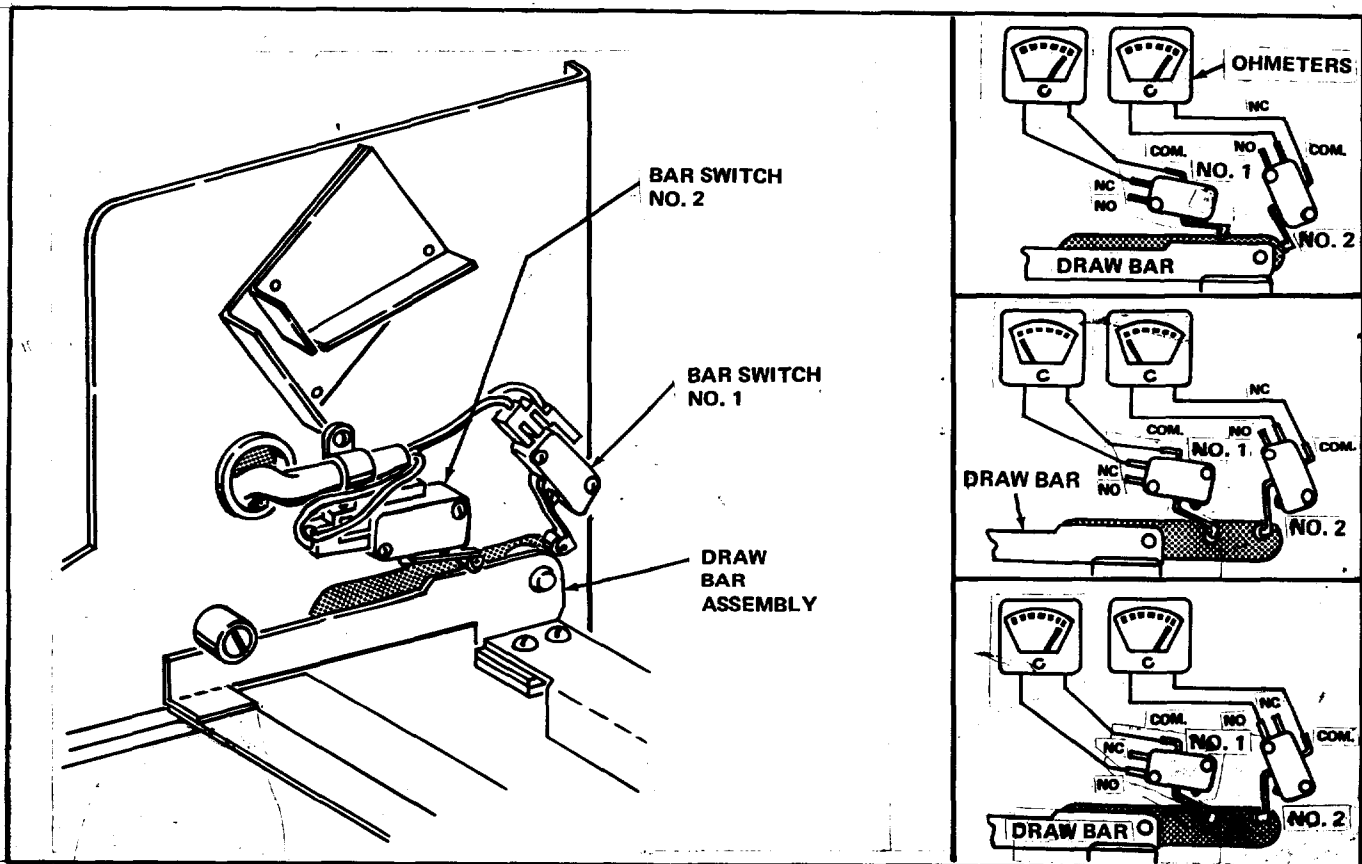

FIGURE III-6
- V. When the Draw Bar Assembly is in the at-rest position the left extension of the Assembly holds the Switches on the Left Sidewall in the depressed NO (normally open) position. Check the Switches for proper adjustment. National Vendors suggests the Connector on the front Switch be removed and an Ohmmeter be used to check continuity between the Common (Arm) and NO contacts when the Draw Bar is at rest. See Figure III-6.